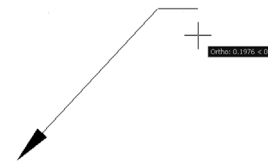

FIGURE 6.15 Leader, Step 4.
Step 4. Turn Ortho back on and draw a short line to the right, clicking when done; this is your *horizontal landing*, as seen in Fig. 6.15.